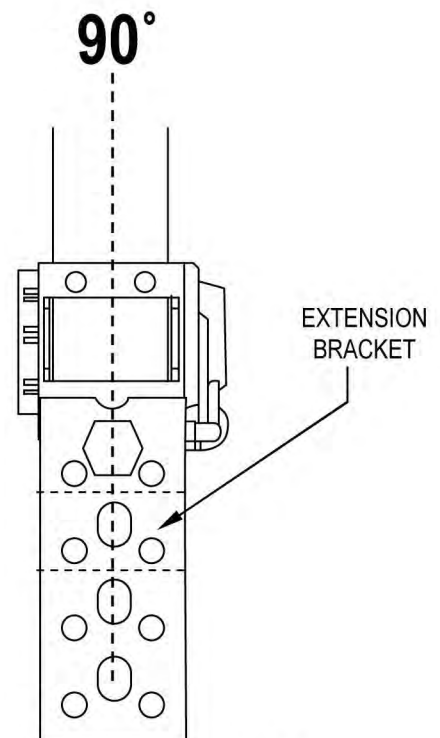

FIGURE 1
- The Mounting Bracket attached to the retractor allows the retractor to sit inside a cavity on a 90° angle as shown in Fig. 1.